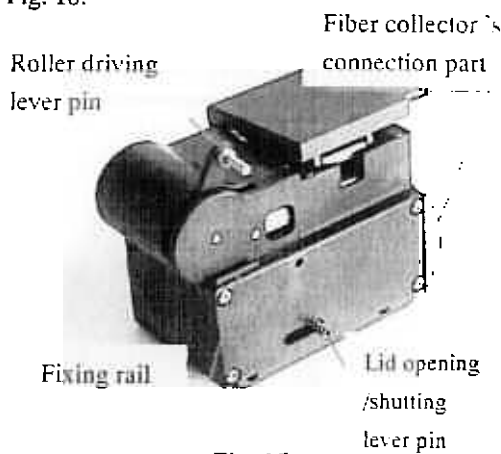
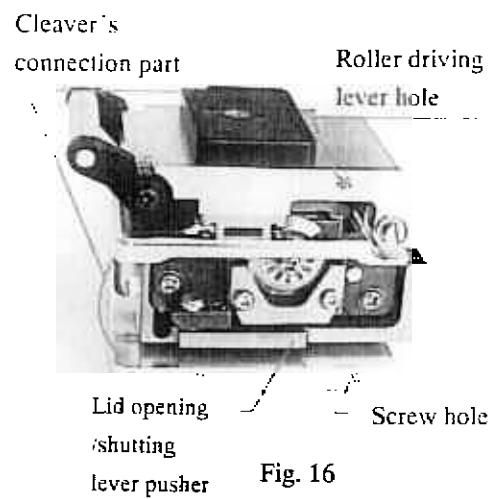
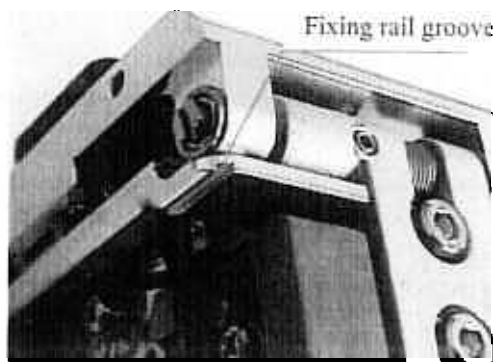
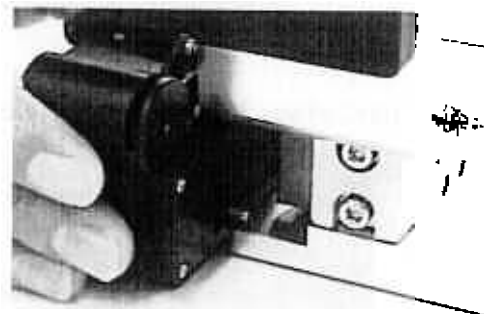

Fig. 15
Fig. 16
Fig. 17
Fig. 18
- (ii) With the roller driving lever reclined, insert the lever pin into the lever hole while putting the fiber collector's connection part into the cleaver's connection part (refer to Fig. 15 and Fig. 16).
The position of the fixing rail (refer to Fig. 15) and its groove (refer to Fig. 17) is as shown in Fig. 18.